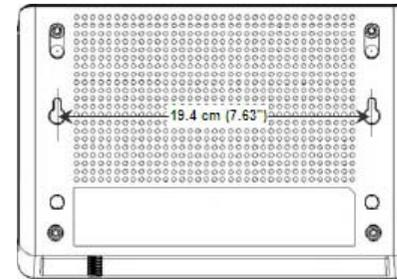

Figure 1. Distance Between Mounting Holes
- For wall mounting, use the mounting holes on the bottom of the device, as shown in Figure 1.